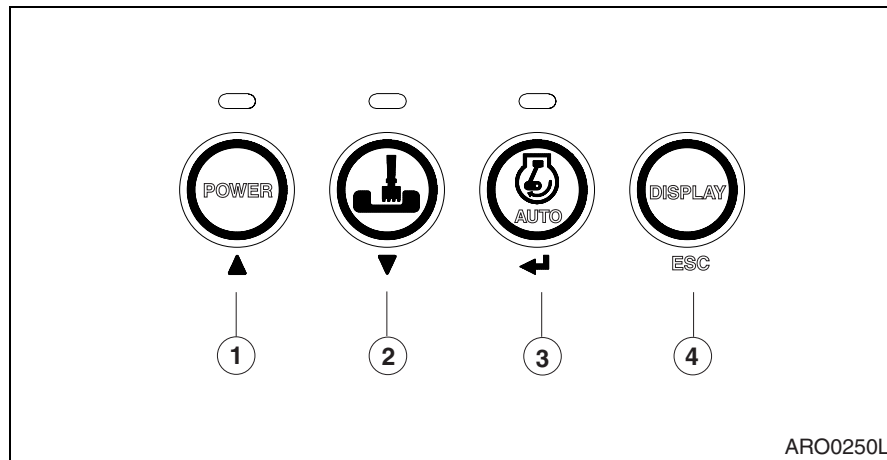

Figure 19
1. If escape button (ESC, 4 on Figure 19) is pressed for more than 1 second, the special menu screen will be returned to the normal mode screen.
Various sub-menus can be selected by pressing "Up (▲, 1 on Figure 19)" and "Down (▼, 2 on Figure 19)" button.
When the selected menu is inverse displayed, press the "Enter (↵, 3 on Figure 19)" button for menu selection.
1. Entering Sub-menus: When cursor is located on "Machine Info" of special menu screen, press "Enter (↵, 3 on Figure 19)" button and the "Machine Info Sub-menu" will be displayed.
2. Exiting Sub-menus: If escape button (ESC, 4 on Figure 19) is pressed for more than 1 second, display will be turned to previous sub-menu.
1. Entering Sub-menus: When a cursor is located in "Failure Info" of special menu screen press enter button (↵, 3 on Figure 19) and "Failure Info" screen is displayed.
2. Exiting Sub-menus: If escape button (ESC, 4 on Figure 19) is pressed for more than 1 second, this information screen will be returned to previous screen.